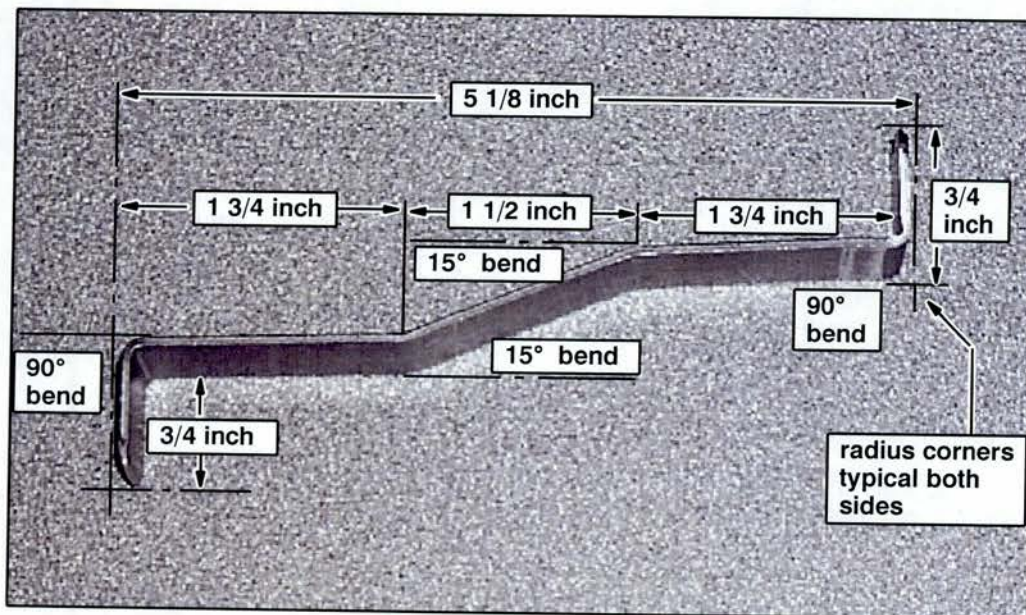

Figure 1.
- Fabricate or purchase the tool shown in Figure 1.
*This tool can be manufactured, using 16 gauge steel, following the specs. outlined in Figure 1, or tool can be purchased at SNAP ON / part number A192.*
7. Carefully remove and retain the sidewall mouldings using the tool shown in Figure 1.